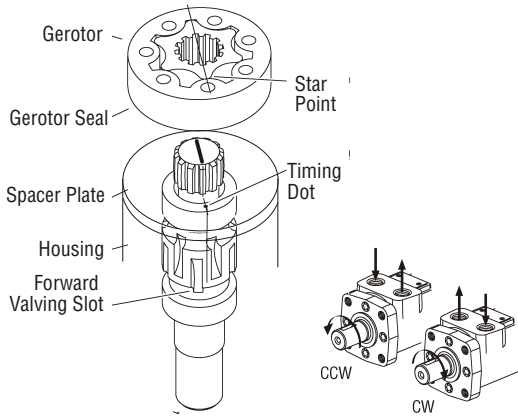

Figure 5-32, Standard Rotation
25. For standard rotation align any star point with the marked tooth on the drive. (Figure 5-32)